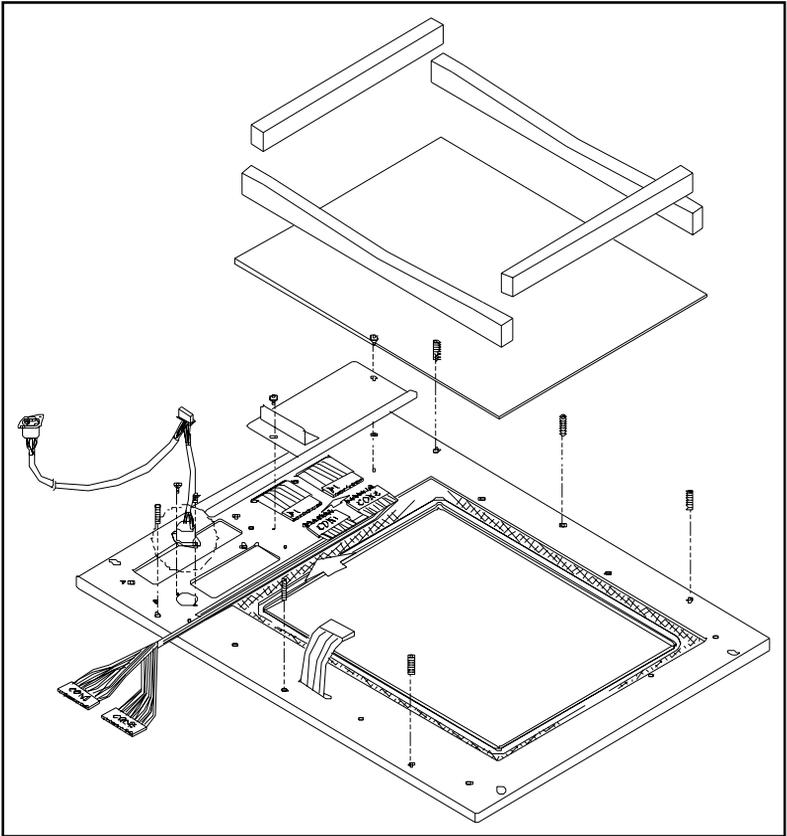

Figure 3-11: Replacing the touchscreen sensor
8. Separate the front panel from the chassis, the touchscreen cable from the touchscreen sensor, and the function keypad cable from the function keypad. (See Fig. 3-11.)